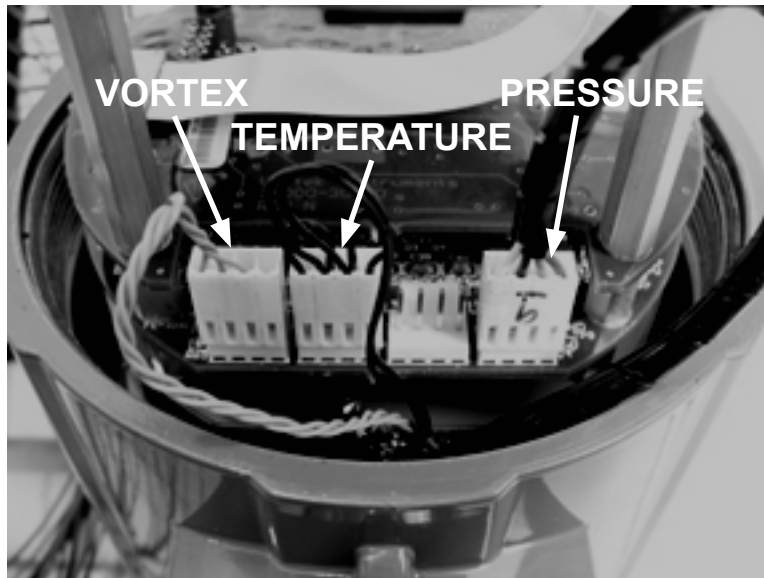

Figure 54. Electronics Stack Sensor Connections
3. Using ESD precautions and hazardous area precautions, remove the electronics enclosure window cover. Disconnect the vortex sensor from the electronics stack or remote feed through board. Refer to Figure 54 or 55. Measure the resistance from each outside pin to the meter ground. Each should be open. Measure the resistance from the center pin to the meter ground. This should be grounded to the meter.
3. Using ESD precautions and hazardous area precautions, remove the electronics enclosure window cover. Disconnect the temperature sensor from the electronics stack or the remote feed through board. Refer to Figure 54 or 55. Measure the resistance across the outside pins of the temperature sensor connector. It should read approximately 1080 ohms at room temperature (higher resistance at higher temperatures).